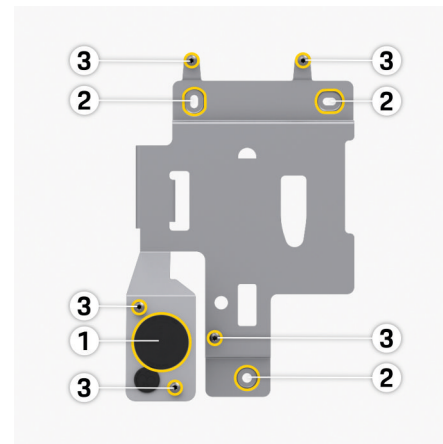

Fig. 12: Mounting plate
- **Cable from below:** Route the cable directly to the relevant housing break-out 1 ▶ (Fig. 12).
- **Cable from the rear:** Position the cable exit from the wall at the height of the bottom left mounting position 1 ▶ (Fig. 12).
1. Mark off the positions of the holes on the wall as shown in the drilling template 2 ▶ (Fig. 12).
4. Fasten the mounting plate with screws 2 ▶ (Fig. 12).
7. Pull the infrastructure cable through the cable bushing **1** ▶ (Fig. 12).
To install the Ethernet cable, fit the cable bushing (KEL-DP 20/4-1) from the outside to the inside on the prepared housing break-out (the hole on the left below **1** ▶ (Fig. 12)) to ensure a tight seal.
10. Fasten the Wallbox **3** ▶ (Fig. 12) to the mounting plate with five screws.